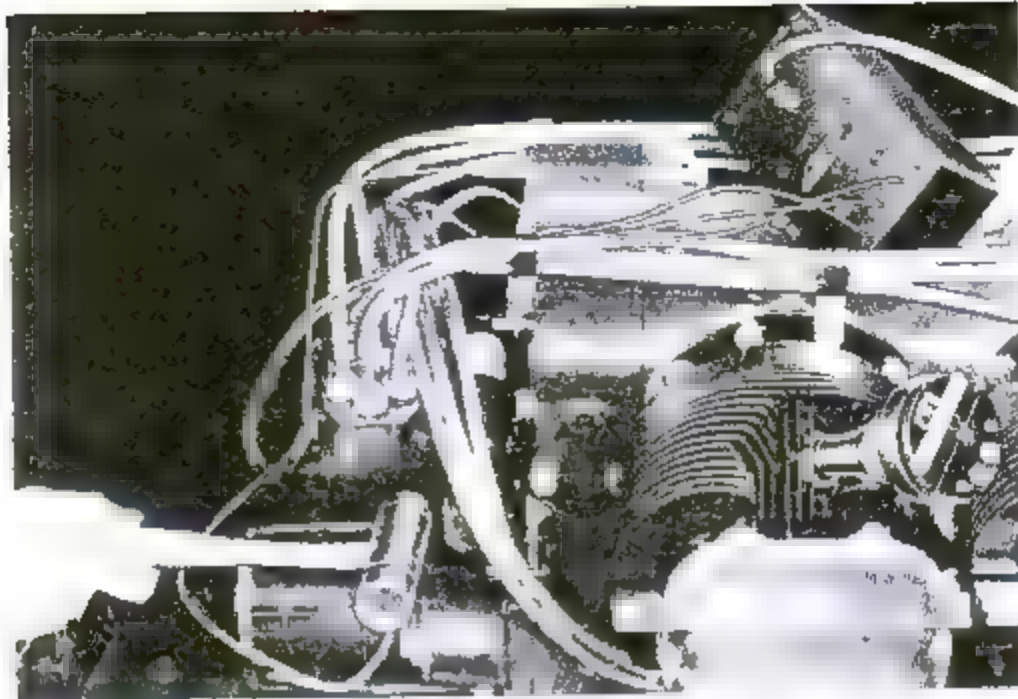

Figure 7-12. Timing Ignition
b. Install a Time-Rite piston position indicator in the No. 1 cylinder upper spark plug hole, with the instrument's white celluloid scale toward the rear of the engine and with the slide slot aligned with the nearest No. 1 rocker cover screw. (See figure 7-12.)
m. Place a Scintilla No. 11-851, or equivalent, timing light so that it can be seen from the magneto installer's position. (See figure 7-12.) Connect the ground lead in the left magneto case and either of
n. Tap the magneto case counterclockwise with a non-marring hammer until the timing light indicates that the breaker points have just opened. (See Figure 7-12.) Tighten the magneto attaching nuts moderately to hold this position.